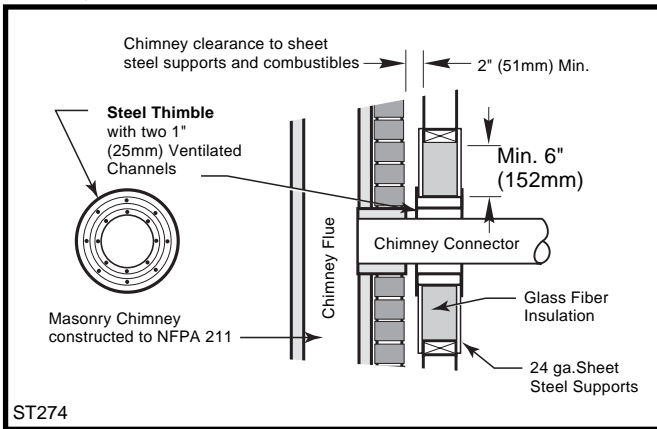

Fig. 11 Wall Pass-through using single wall chimney connector with a ventilated steel thimble.
- Placing a chimney connector pipe inside a steel double-wall ventilated thimble, which is then separated from combustibles by 6" (152mm) of fiberglass insulating material. (Fig. 11)